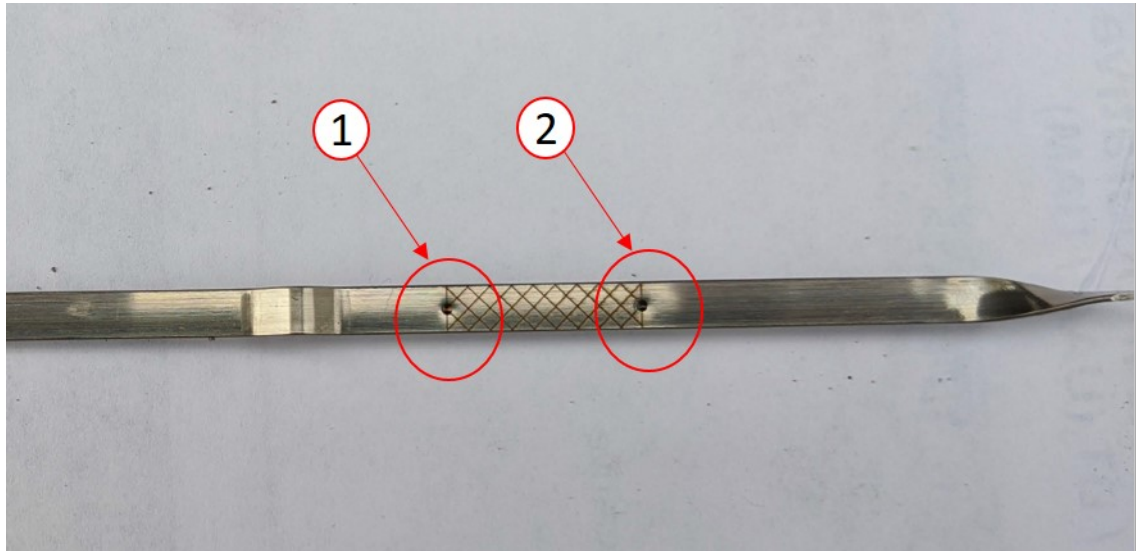

Fig. 1
5. Ensure the oil level is at the "FULL" mark, if necessary top off the oil to the "FULL" mark on the dipstick (Fig. 1) .
7. Record the vehicle mileage. Note the oil level is at the 'full' mark (Fig. 1) five minutes after hot shut-down and date.
12. Check the oil level at least five minutes after a hot shutdown on a level surface. If the oil level is at or above the "ADD" mark (Fig. 1) , the engine is in an acceptable condition and no further service action required.
13. If the oil level is below the "ADD" mark (Fig. 1) , the engine has failed the oil consumption test. Proceed to Step 1 of the Repair Procedure.